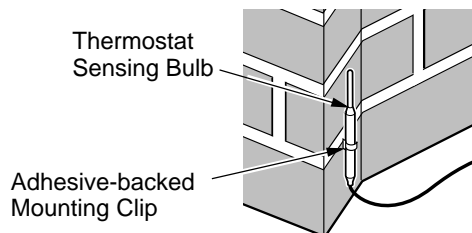

Figure 46 - Locating Thermostat Sensing Bulb on Masonry Fireplace
3. The thermostat sensing bulb may be located to the lower right front side of fireplace. Determine location of sensing bulb, but do not mount sensing bulb until step 4. If you have a masonry fireplace, see Figure 46 for location.